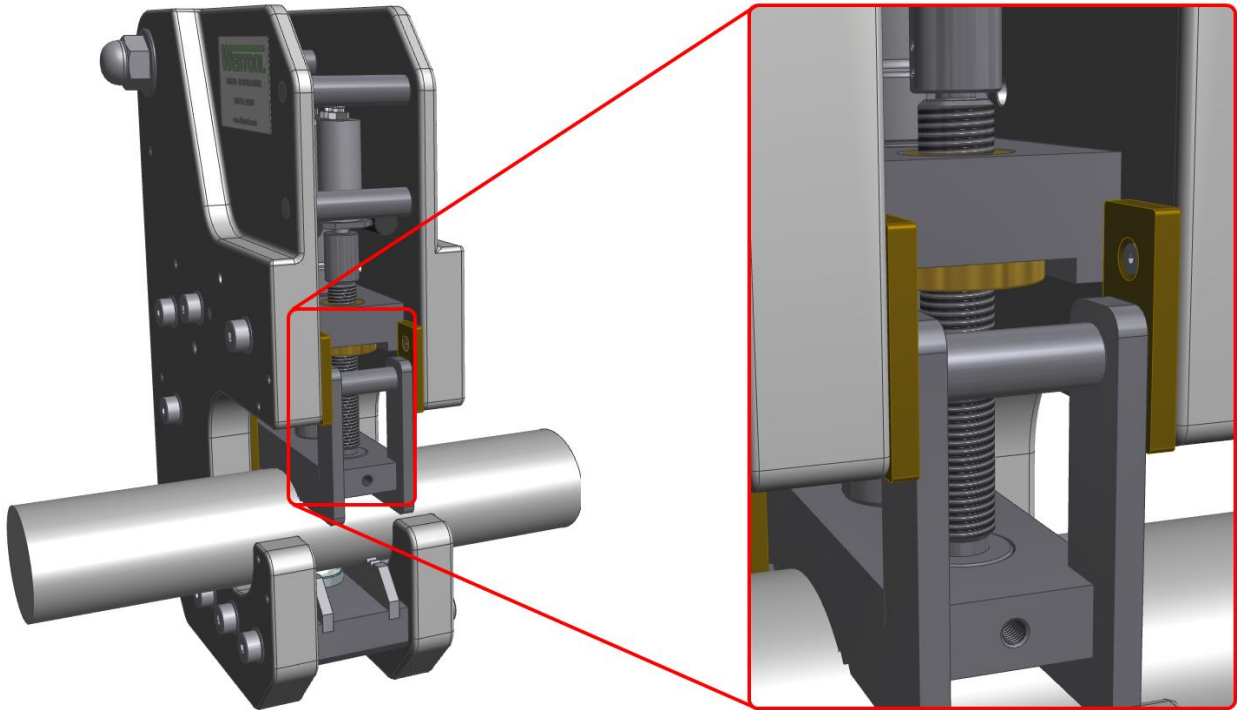

Figure 6 – Locking screws bottomed out onto moving jaw
6. Check that the locking screws have bottomed out onto the moving jaw as shown below in figure 6.